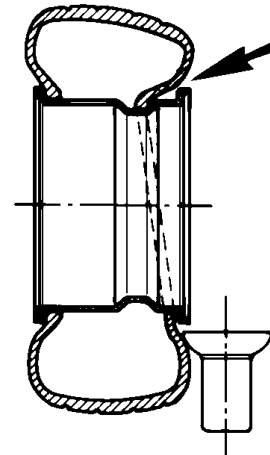

Fig.33
D. Turn the chuck clockwise until the tire is completely mounted (Fig.33).